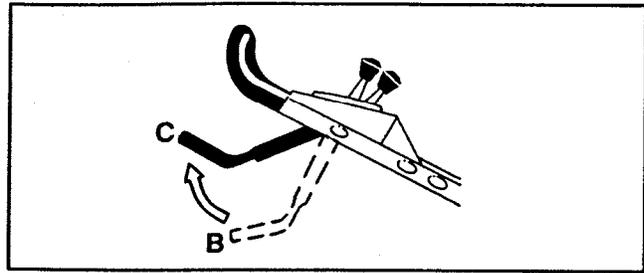

Figure 17
8. Bring the control bar up into the mid position (about 5 inches below the handle cross bar) (Fig. 17, position C).
9. Release control bar (Fig. 17, position A).